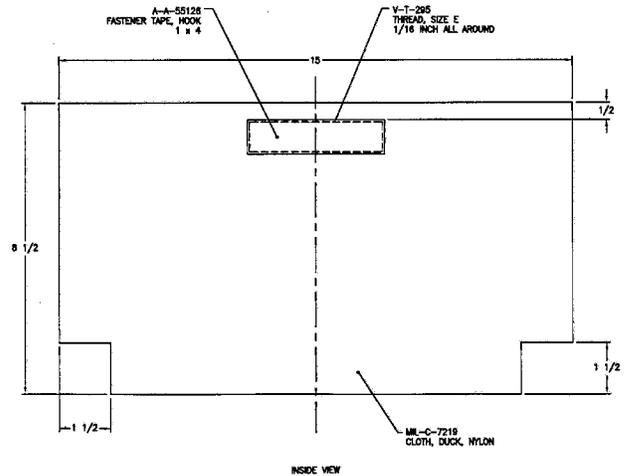

Figure 8. Stowage Pocket Layout
a. Lay out nylon cloth per figure 8.